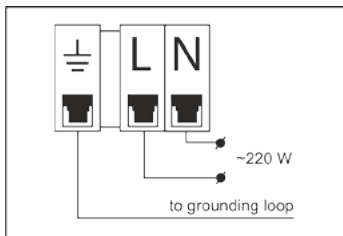

Fig. 3
- Fix bare ends of the electric cable in a connection box hardly tightening them with screws and in strict correspondence with the box marking (refer to Fig.3)